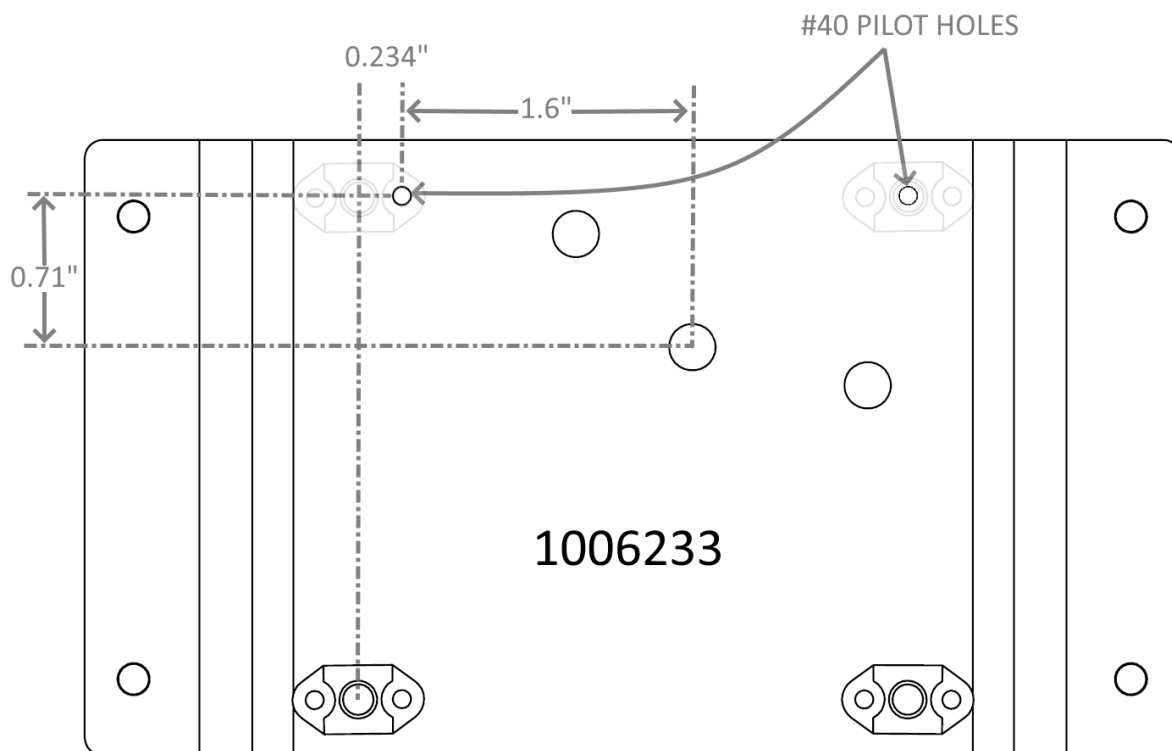

FIGURE 3-4 ROLL SERVO BRACKET NUTPLATE LOCATIONS
2. Install nutplates onto the roll servo bracket in the locations shown in Figure 3-4.